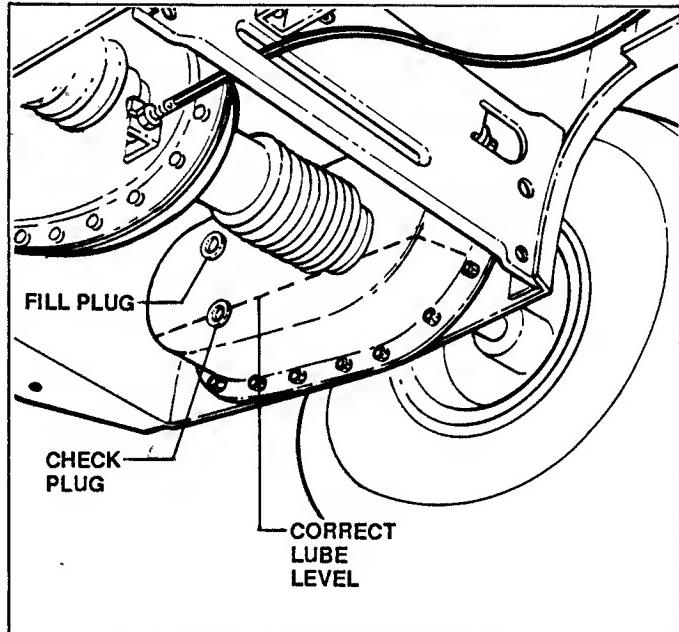

FIGURE 16
- CHECK GREASE LEVEL by removing CHECK PLUG on inside of unit shown in Figure 16 to check level of oil. Add **SNAPPER "0"** grease as needed thru upper fill hole to bring the level up to the lower edge of the CHECK PLUG hole. Reinstall NEW plugs after servicing.
- CHAIN CASE: Remove plug and check. If dry, add one ounce of **SNAPPER "0"** grease - do not overfill. Total capacity must not exceed 2 ounces. See Figure 16.